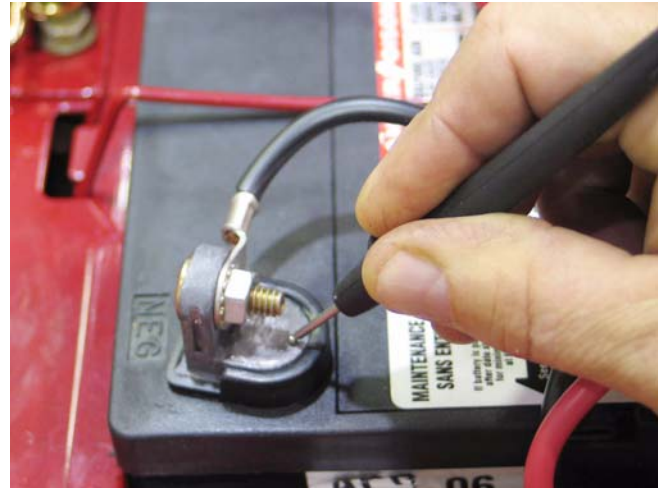

Figure 7.54
- This text will address the negative side to begin with. Bad grounds are responsible for as many electrical failures as the positive side of the system, yet the ground side is frequently neglected by technicians. See Figure 7.54.